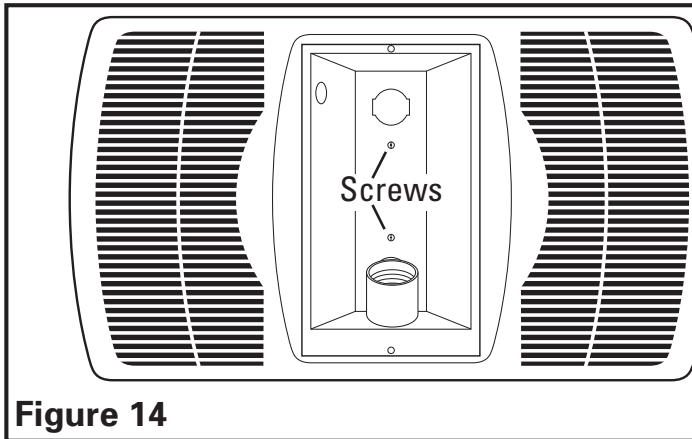

Figure 14
- Attach light reflector in place with the two screws removed during *Step 2* in **SECTION 1** *Preparing the Unit* so grill fits snugly against ceiling (**Figure 14**).